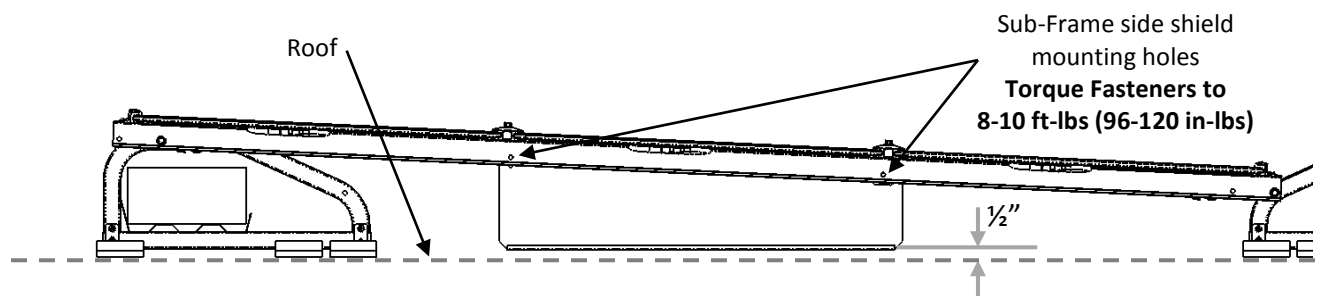

Figure 18 Install Side Shield
1. Attach the side shield to the Sub-Frame using the included $\frac{1}{4}$ -20 fasteners. The side shield positioning is such that the lower lip of the shield is $\frac{1}{2}$ " off the roof height. Torque bolts to 8-10 ft-lbs (96-120 in-lbs). Figure 18